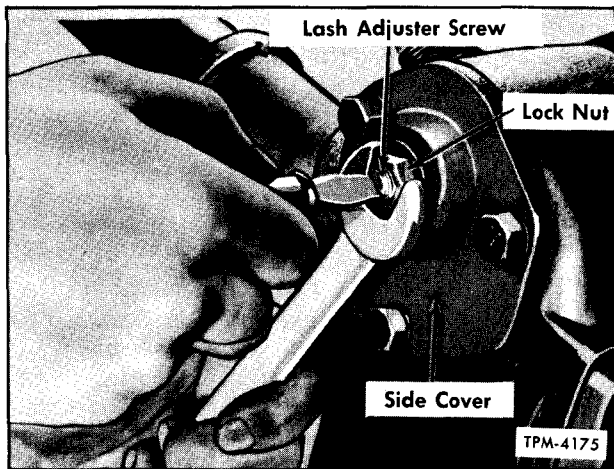

Figure 3—Sector Gear Lash Adjustment (Typical)
2. Loosen lock nut and turn lash adjuster (fig. 3) a few turns counterclockwise to relieve load from worm bearings and to provide clearance between the sector gear and worm ball nut.